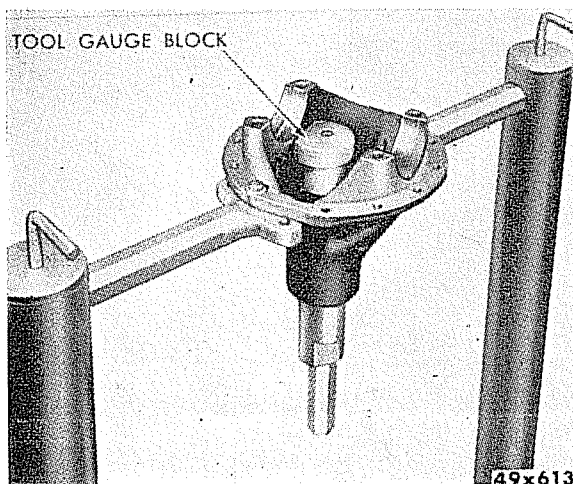

Fig. 12—Installing Gauge Block on Main Body.
(2) Pinion Setting.
- (a) Place gauge block on top of body and tighten in place (Figure 12). (Gauge block takes place of drive pinion gear).